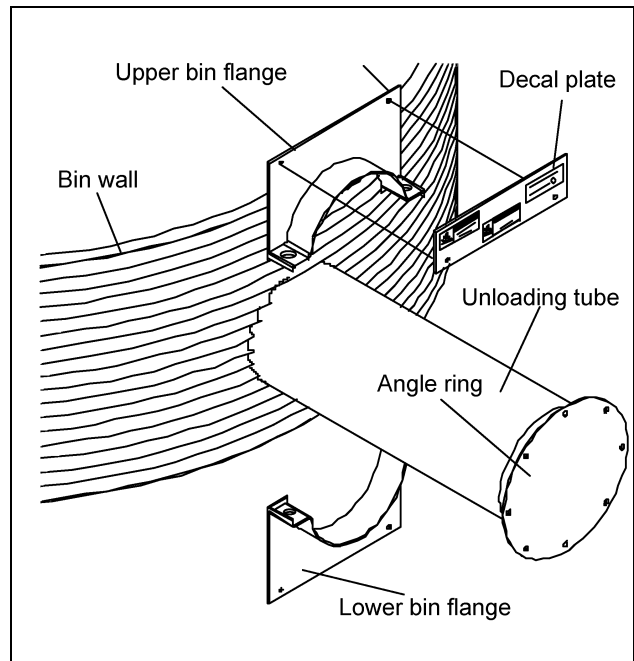

Figure 3J
- A. Attach the upper and lower bin flanges to the auger tube using 5/16" x 1-1/2" bolts and nuts. (See Figure 3J.)
- B. Bolt the clutch lock collar to the lower bin flange half using two (2) 1/4" x 3/4" carriage bolts. Install the bolt heads on the back side of the lower bin flange half, so they will be next to the bin wall when the flange is attached to the bin.
- C. Fasten the four (4) corners of the bin flange to the bin wall by first drilling holes for 5/16" x 1" bolts in the bin wall through existing holes in the flange. Attach the decal plate to the upper flange while attaching flange to bin. (See Figure 3J.)